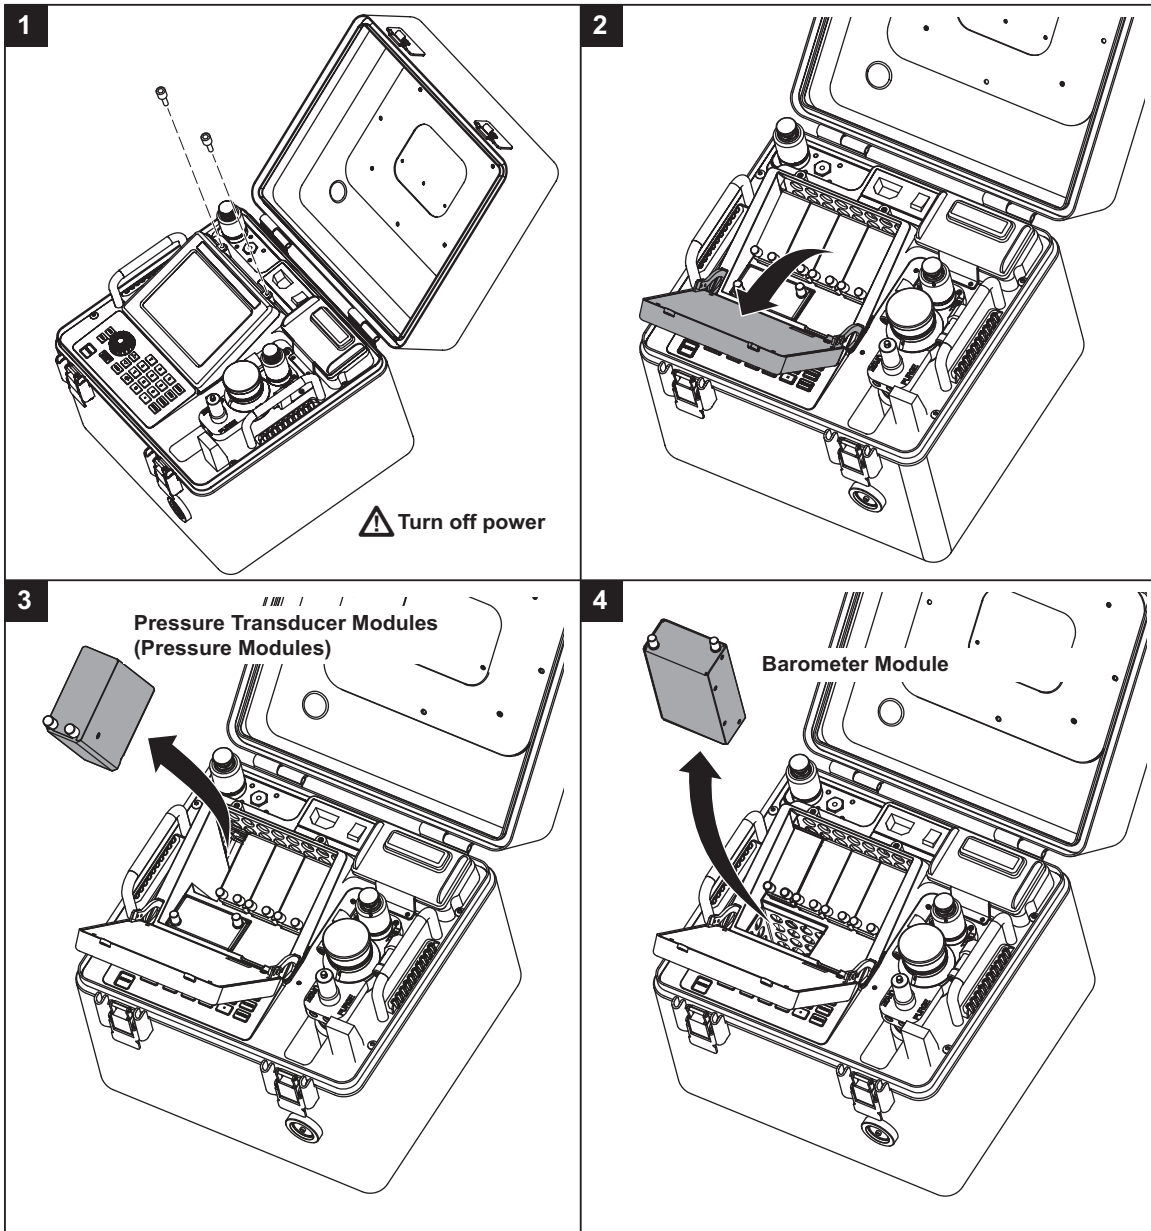

Figure 4-13. Pressure Transducer and Barometer Removal
Use the following instructions and reference Figure 4-13 to replace a pressure transducer module and/or the barometer.
5. To put the module into the slot, align the pressure transducer module in the appropriate slot. See step 3 in Figure 4-13.